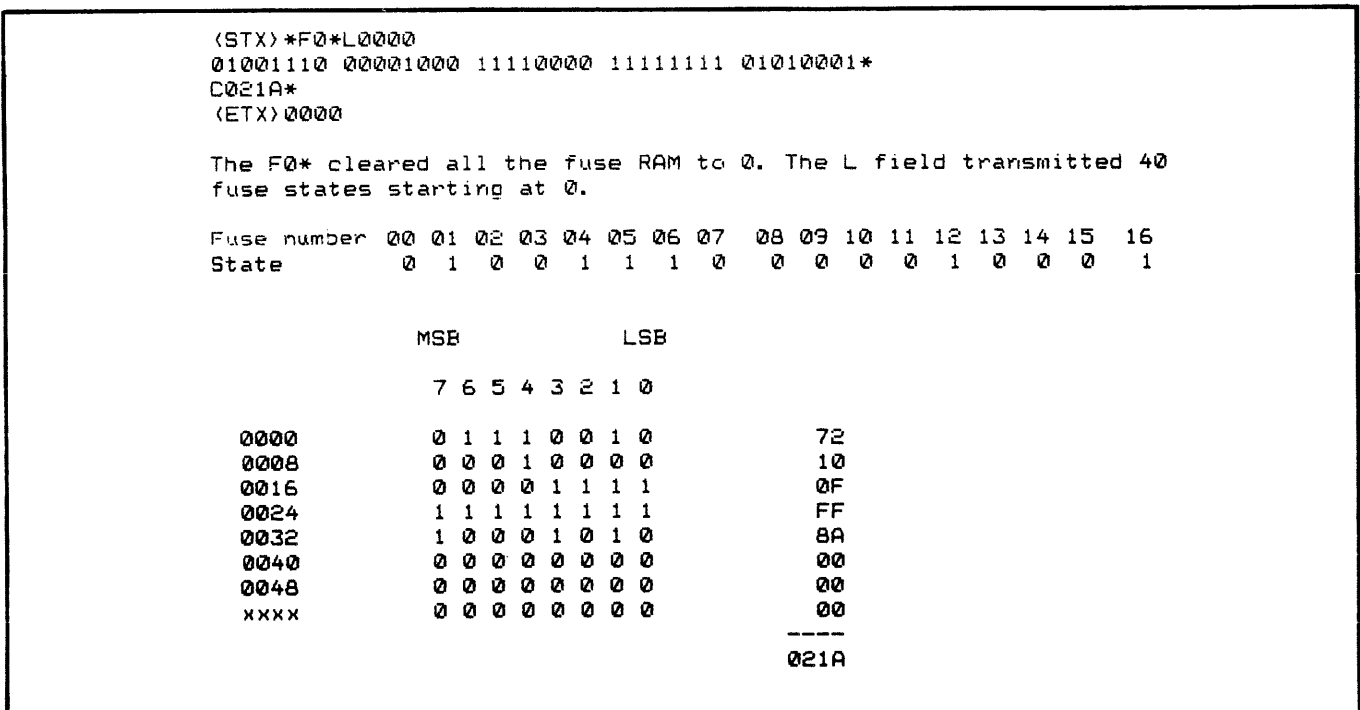

Figure 3-14. Computing the Fuse RAM Checksum
The "C" field is the sum-check of the entire fuse RAM (fuse number 0 to maximum fuse number for the selected device), not just the fuse states sent. See figure 3-14. (The JEDEC term "Fuse Checksum" is the same as Data I/O's term "sum-check".)
- The fuse checksum (C field) is the 16-bit sum of all fuse states (i.e., from fuse 0 to the fuse limit for the device). See figure 3-14.